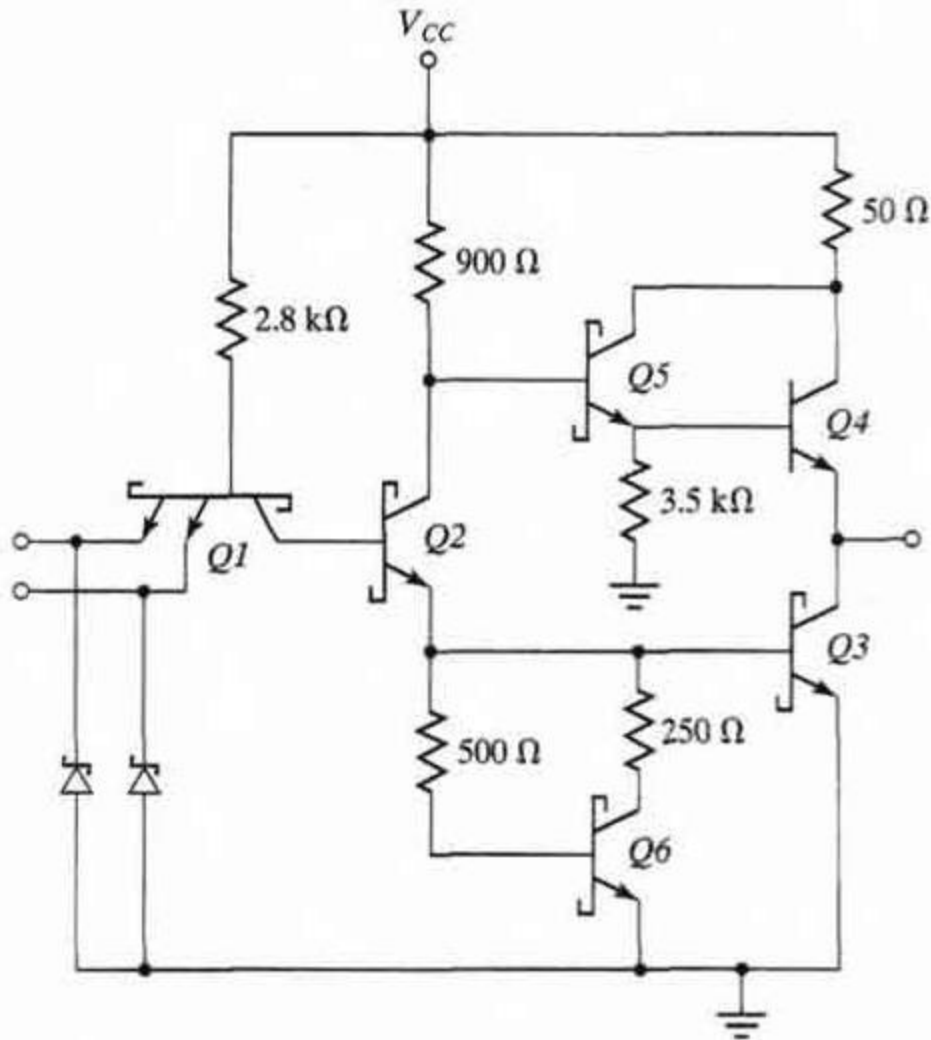

Fig 9.Schottky TTL gate
- The presence of a Schottky diode between the base and collector prevents the transistor from going into saturation. The resulting transistor is called a Schottky transistor. The use of Schottky transistors in a TTL shown in figure.9 decreases the propagation delay without sacrificing power dissipation.